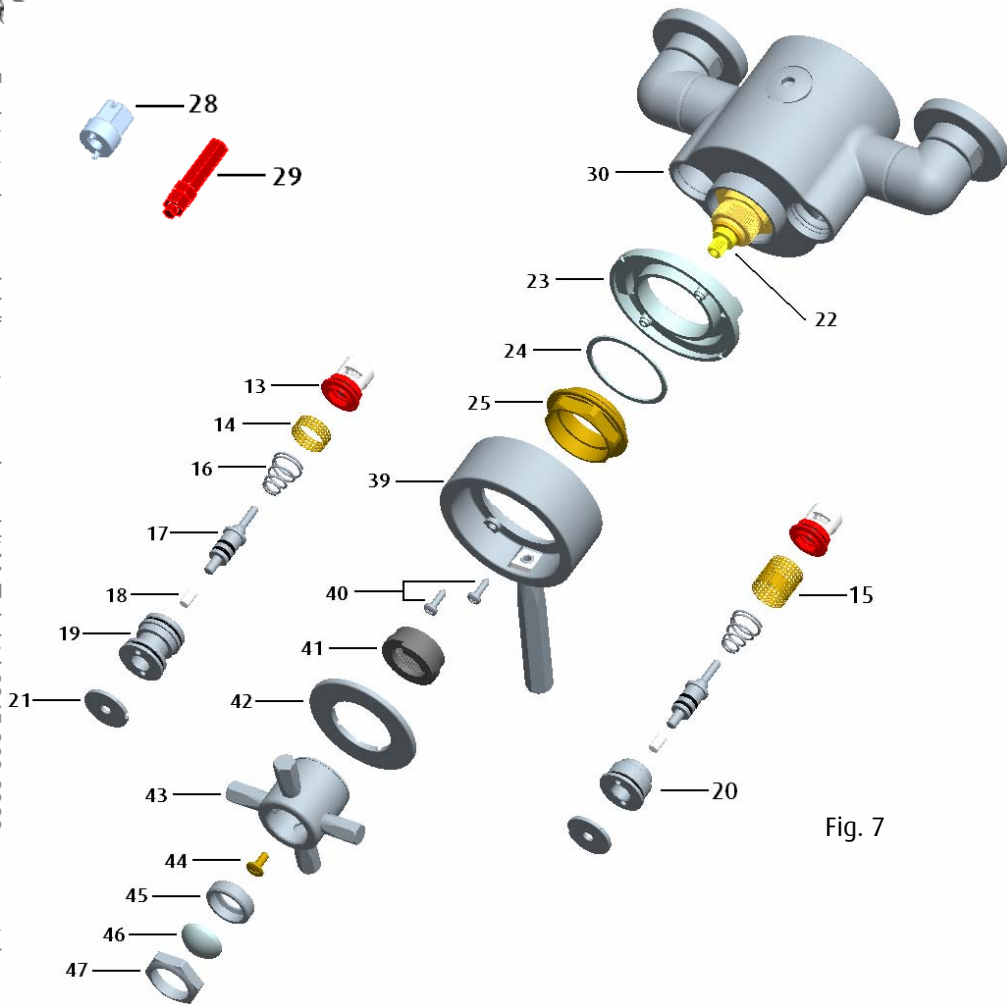

Fig. 7
8.6 Cleaning the Filters (See Fig. 7)
8.7 Flow Valve Maintenance (See Fig. 7)